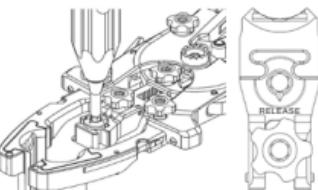
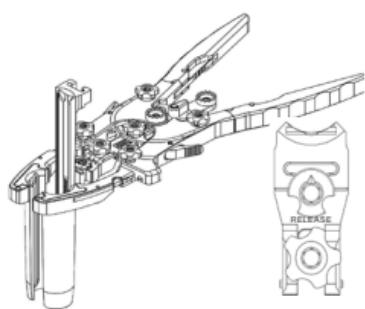

Figure 5
Figure 6
- The posterior blade is also top loading (Figure 6). Use the **Hex Driver Tool** (ML-0505), to rotate the lock until it is in the open position, with the arrow pointing to the 'Release' text (Figure 5). Slide the
retractor blade into its slot, then lock the blade in place by rotating the lock arrow toward the incision (or away from 'Release') using the **Hex Driver Tool** (Figure 6).